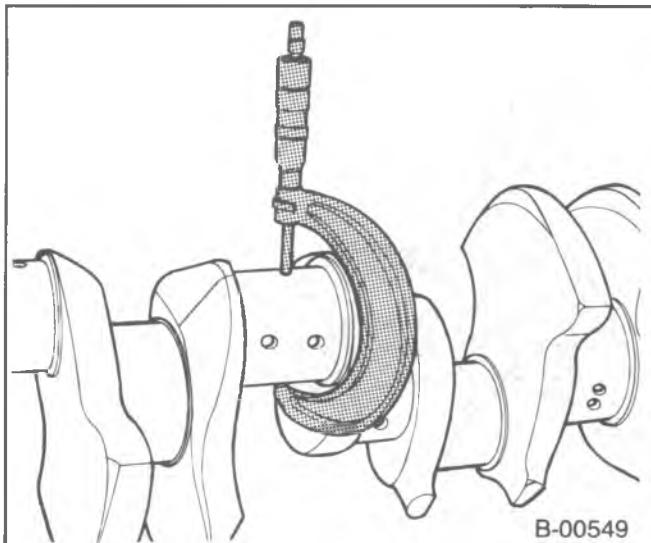

Figure 28—Measuring the Crankshaft Journals
- Main bearing and connecting rod journal diameters (figure 28). Compare with "Specifications." Replace the crankshaft if necessary.
- Main bearing and connecting rod journals for taper and out-of-round (figure 28). If the journals are tapered or out-of-round more than 0.005 mm, grind or replace the crankshaft.